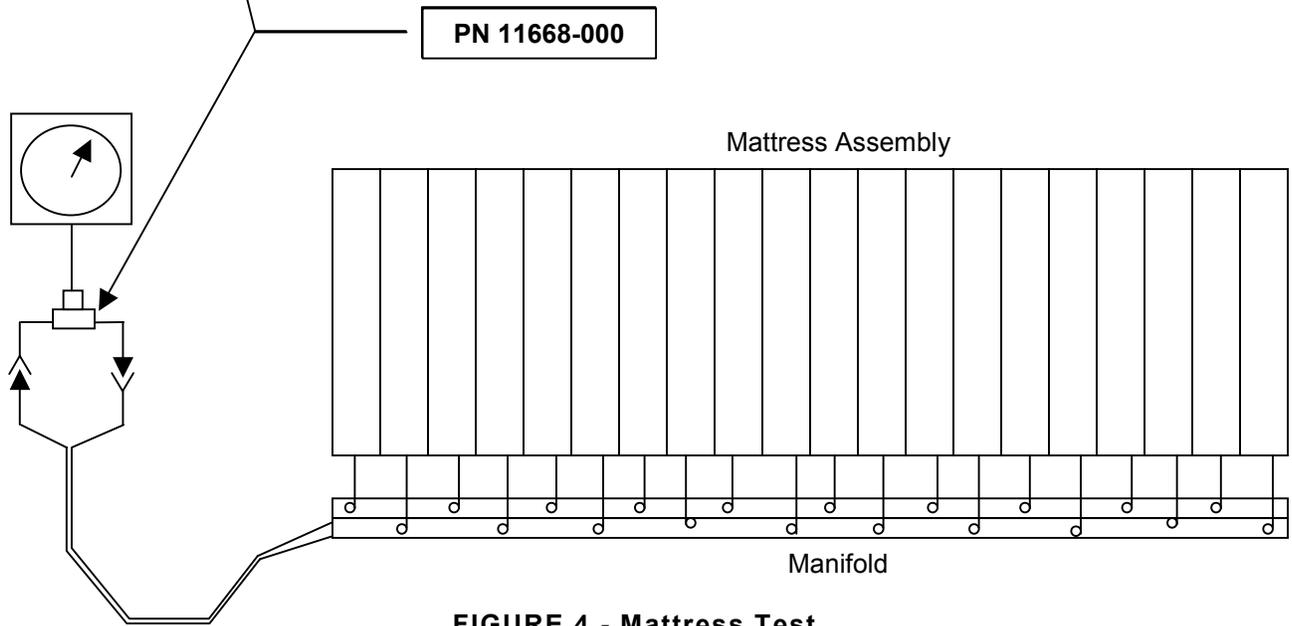

FIGURE 4 - Mattress Test
- 12.2.1** Inflate mattress/overlay with an Inflator/Deflator to approximately 40 mmHg.. Kink the mattress hose to prevent mattress from leaking, then disconnect the hose from the Inflator/Deflator. Attach gauge as shown in FIGURE 4.